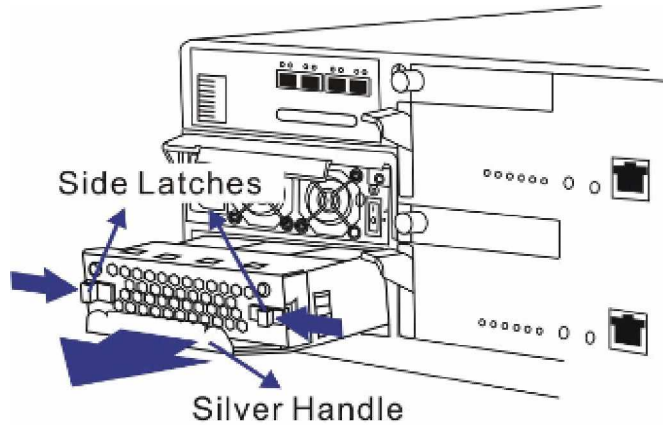

Figure 5-27: Removing the Cooling Module
**Step 1.** *To remove the cooling module*, pull both side latches toward the center of the cooling module. Withdraw the cooling module from the subsystem by gently pulling on the silver handle at the bottom of the module. (See **Figure 5-27**)